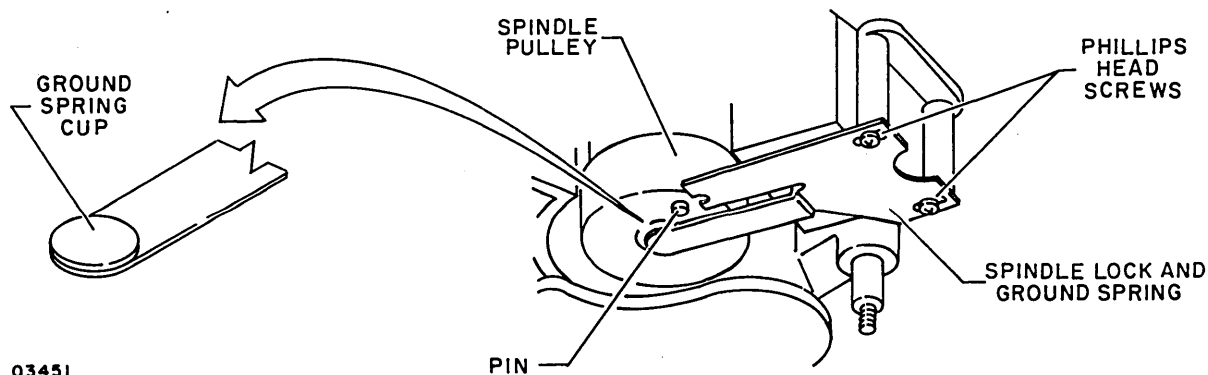

Figure 2-4. Spindle Lock and Ground Spring Location
17. Unlock spindle by loosening screws on spindle lock and ground spring as shown in figure 2-4. Slide spindle lock and ground spring back as far as possible and still allow ground spring cup to rest in middle of spindle shaft. Tighten screws.